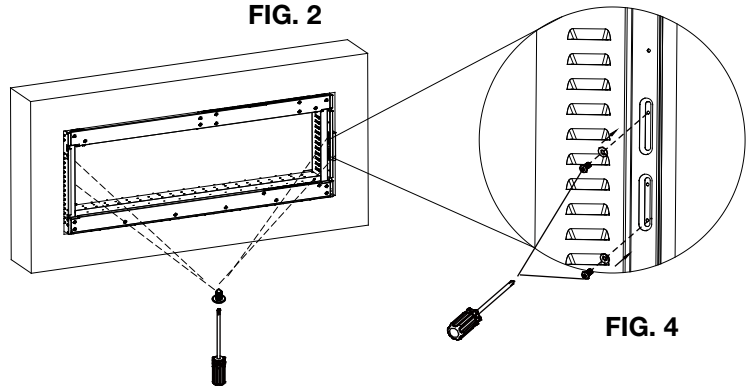

FIG. 4
- H. Insert the appliance to the frame and secure the appliance to the holes on the bracket using supplied fasteners (#2 x 4) using the slots from the appliance (FIG. 4).